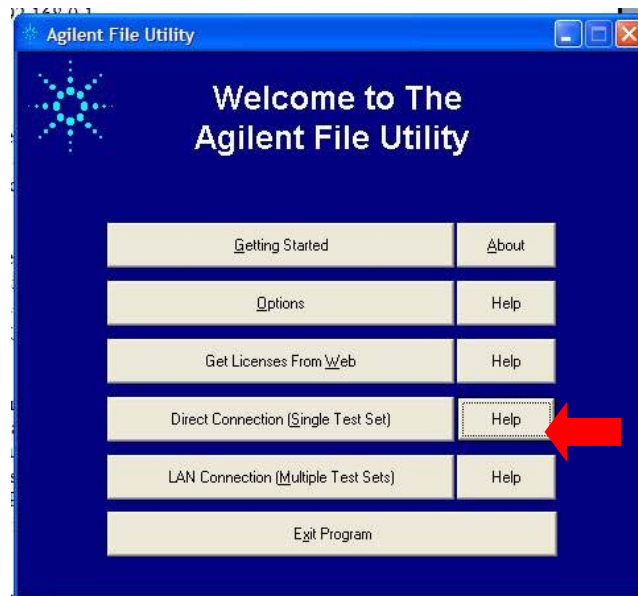

Figure 6: Agilent File Utility
- f. In the newly created directory, run the **8960_File_Utility.exe**. The *Agilent File Utility* displays, as shown in Figure 6.